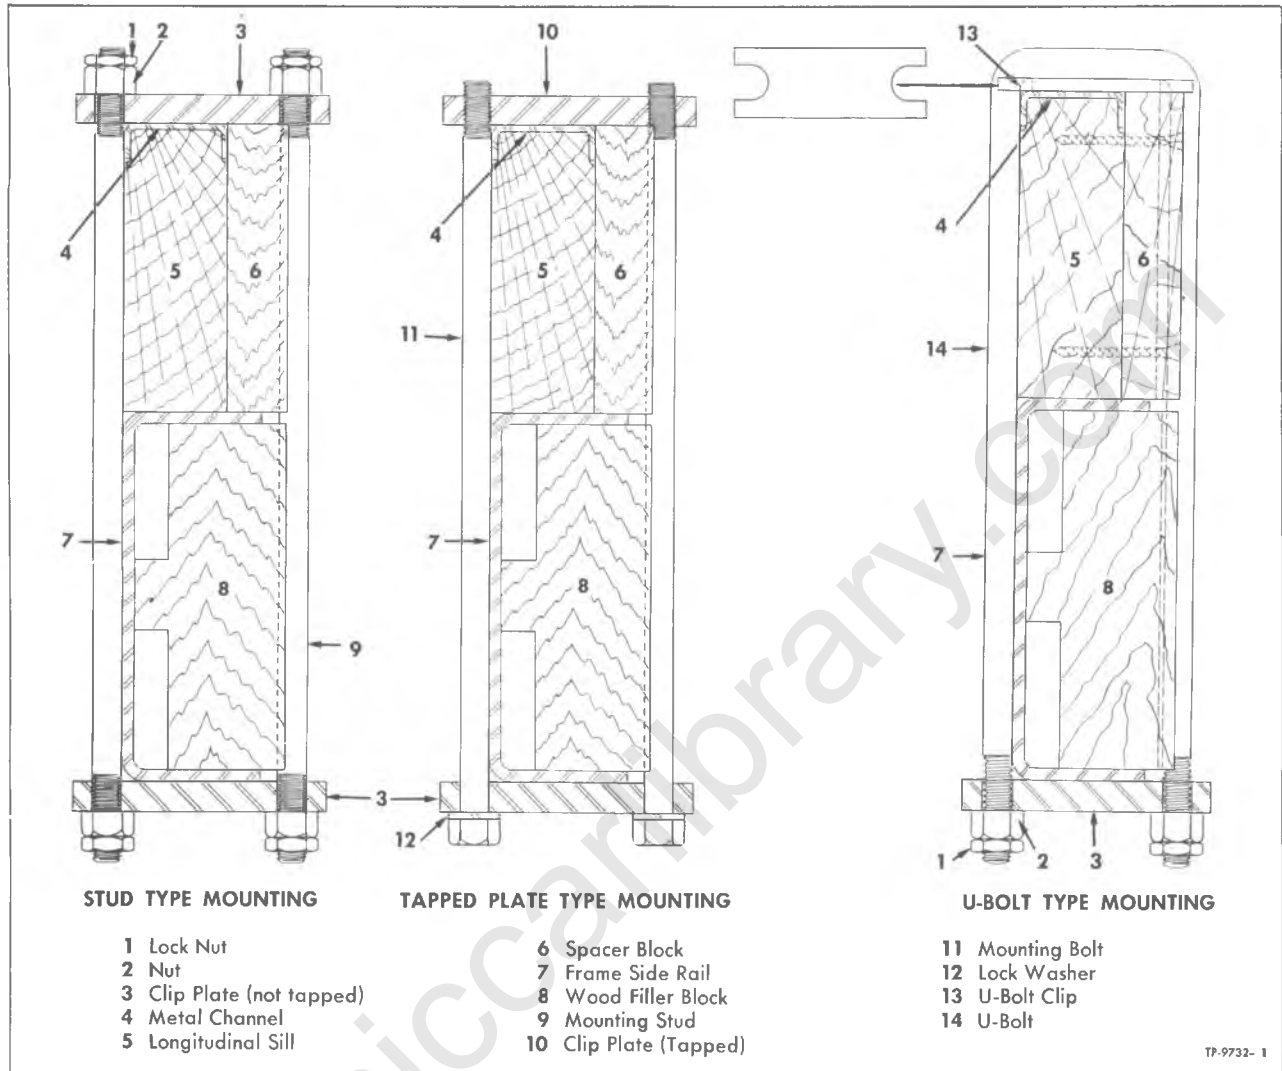

Figure 2—Recommended Methods of Mounting Body
extend beyond width of frame flanges to permit grooving blocks to maintain position of mounting bolts. If desired, block can be attached to sill with screws as shown in figure 2.
of nuts at top of sill, tapped plate, as shown in figure 2 can be used.
5. If shoulder on bolt head is square, as on carriage bolts, the holes in upper clip plates should also be square. Shoulder of bolts should be driven into holes to prevent bolts turning. If U-bolts are used, bolt must be of "flatted" type as shown in figure 2. A clip or spreader must be used on each U-bolt, and bolt must not be used in reverse of position shown in figure 2.